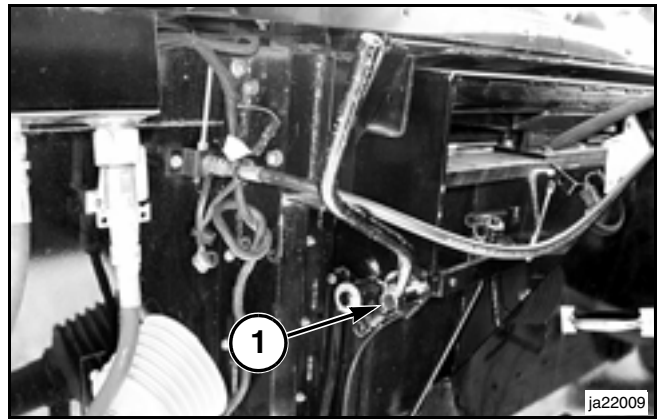

FIG. 48
FIG. 48: Axial Rotor with Lateral Tilt Shown: Install the socket of the concave door tool over the hex stub (1) of the feed house latch linkage. Move the concave door tool rearward to unlock the feed house hooks from the header.